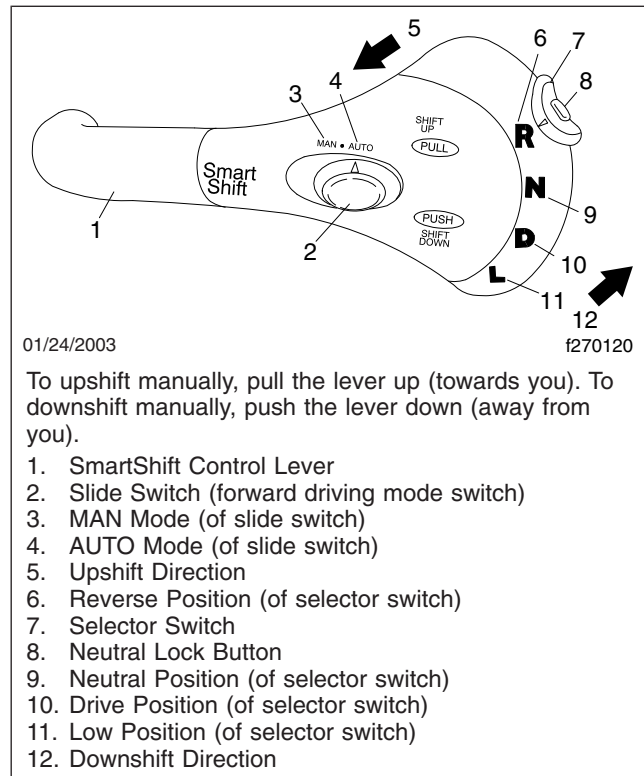
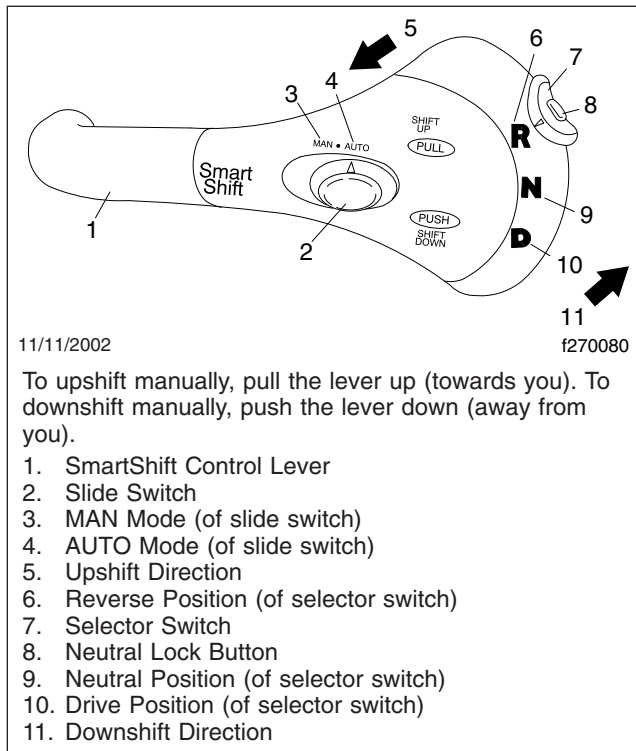

Fig. 8.1, Four-Position SmartShift Control (with Eaton Fuller AutoShift, UltraShift, and UltraShift PLUS)
Fig. 8.2, Three-Position SmartShift Control (with FreedomLine transmission)
For the Eaton Fuller automated transmissions, a four-position (R, N, D, L) selector switch (**Fig. 8.1**) is located at the end of the lever. For the FreedomLine transmission, a three-position (R, N, D) selector switch (**Fig. 8.2**) is located at the end of the lever.
- The SmartShift control paddle on the steering column. See Fig. 8.1.
A two-position slide switch (forward driving mode switch) is located near the end of the control (Fig. 8.1). The switch positions are labelled MAN (manual shift mode) and AUTO (automatic drive mode).
1. With the parking brake engaged and/or the brake pedal pressed down, select neutral (N) by pressing in the safety release and moving the selector switch to the center position. See **Fig. 8.2**.